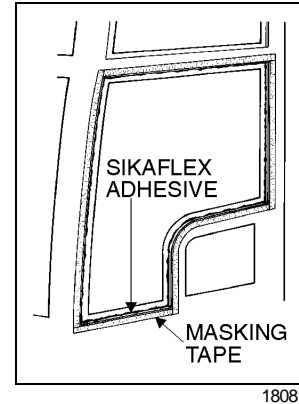

FIGURE 53: ADHESIVE MOUNTED WINDOWS
8. Install Tremshield tape (Prévost # 681089) around the sealing surface of the window opening. See figure 53.